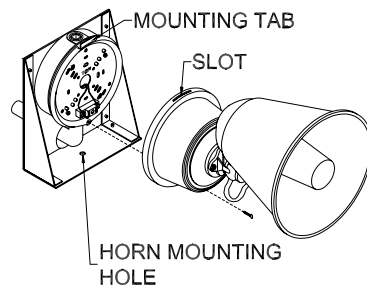

Figure 13 Horn Assembly and Mounting
17. Fasten the horn assembly to the scoreboard using the mounting bolts from the scoreboard as seen in figure 13.